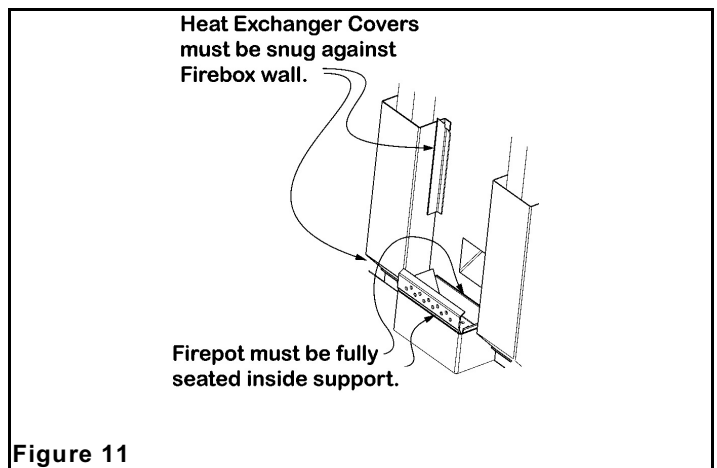

Figure 11
**IMPORTANT:** The Fire Pot must be seated flush and must sit even in the pot tray. Air leaking around the Fire Pot will create a poor burn (**Figure 11**). Light the pellets in Fire Pot using any approved pellet lighter.